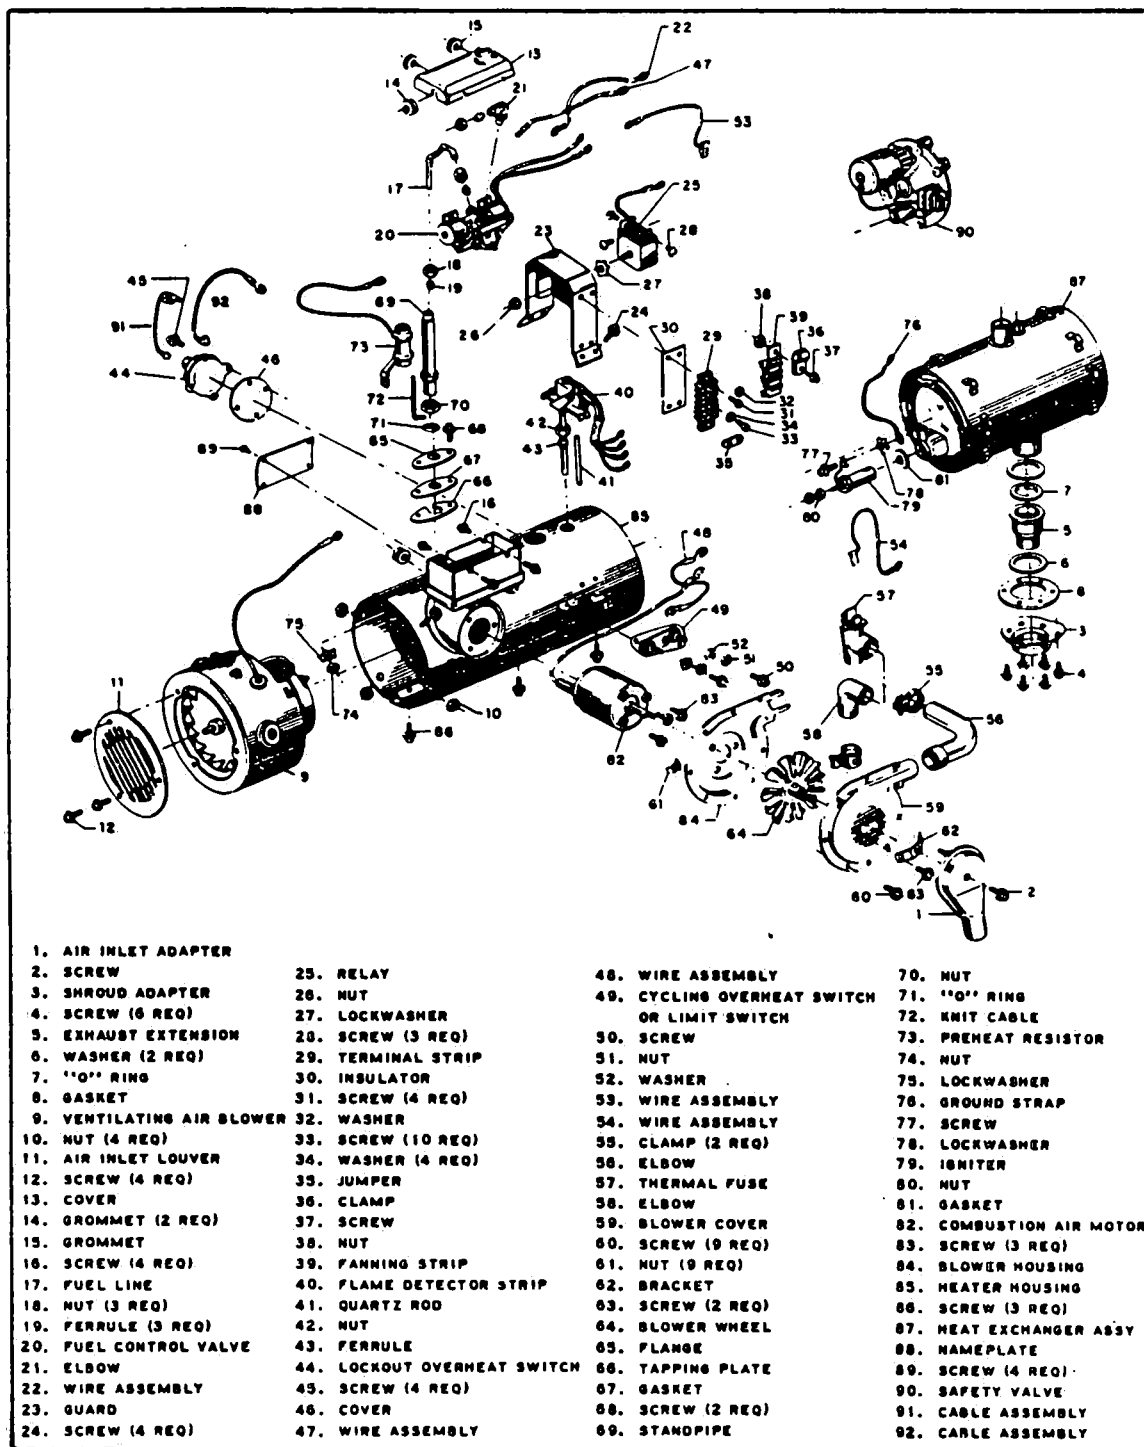

Figure 13-10. Exploded Parts View, Heater Assembly
The instructions in the following paragraphs cover all models of the 940 Series heaters. Figure 13-10 is a composite exploded parts view, showing all
**13-44. DISASSEMBLY. (Refer to Figure 13-10.)**
- a. Remove the combustion air inlet adapter (1) by removing the sheet-metal screw (2) in its center (Refer to Figure 13-10.)
- b. Remove the shroud adapter (3) by removing the six screws (4) from the weld nuts in the heater housing.